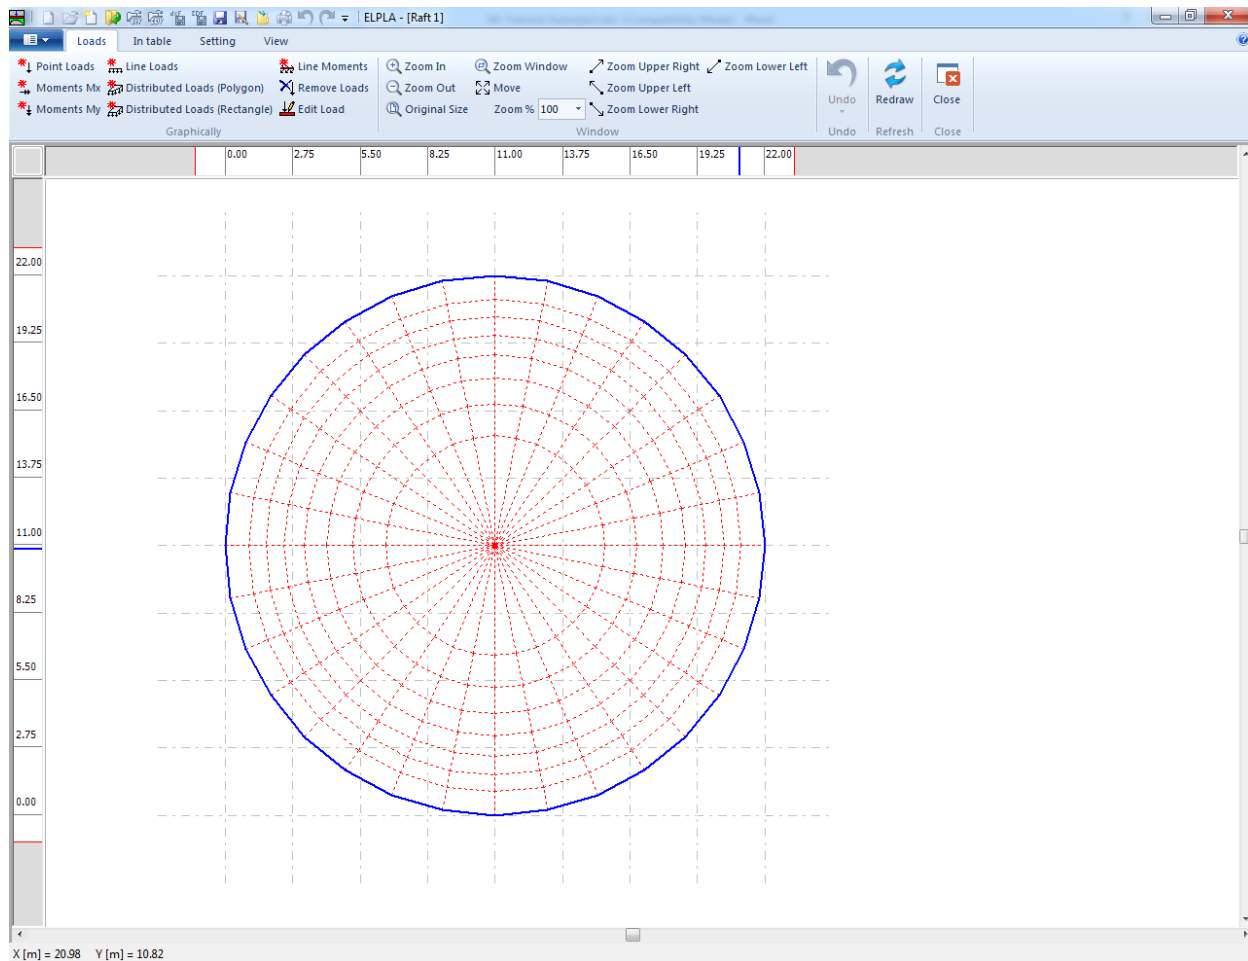
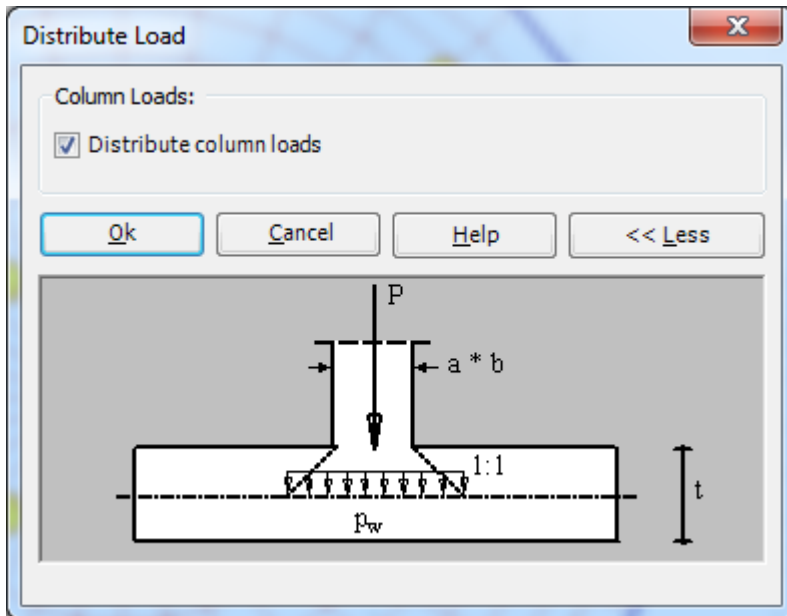

Figure 3.23 "Loads" Window
Figure 3.26 Distributing the point Load over an appropriate area
To define the loads, choose "Loads" command from "Data" Tab. The following Window in Figure 3.23 appears.
- Choose "Point Loads" command from "In Table" menu in the window of Figure 3.23. The following list box in Figure 3.24 appears
- Choose "Distribute load" command from "In Table" menu in the window of Figure 3.23. The following Dialog box in Figure 3.26 appears
- In the Dialog box of Figure 3.26, check the "Distribute column load" check box.